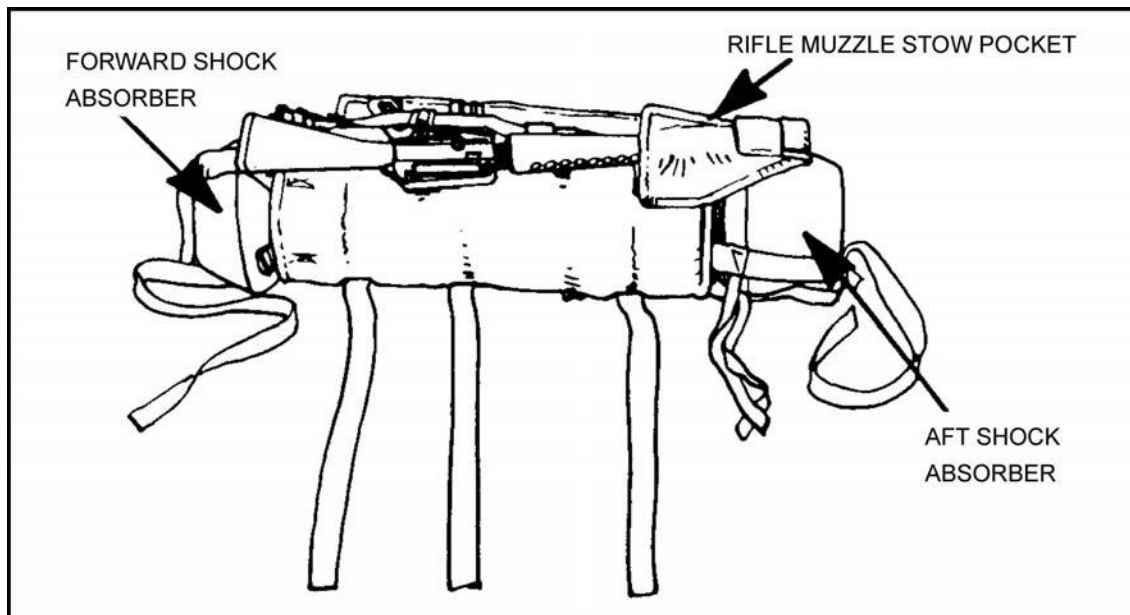

Figure 12-31. Rifle positioned.
- (1) Insert a 20-round magazine into the magazine well (optional).
- (2) Secure a 30-round magazine to the weapon sling, using adhesive tape (optional).
- (3) Position the rifle on top of the pack, on top of the missile bipod, by inserting the rifle muzzle into the rifle muzzle stow pocket. The butt of the rifle pistol grip lies along the inner edge of the jump pack (Figures 12-31 and 12-32).